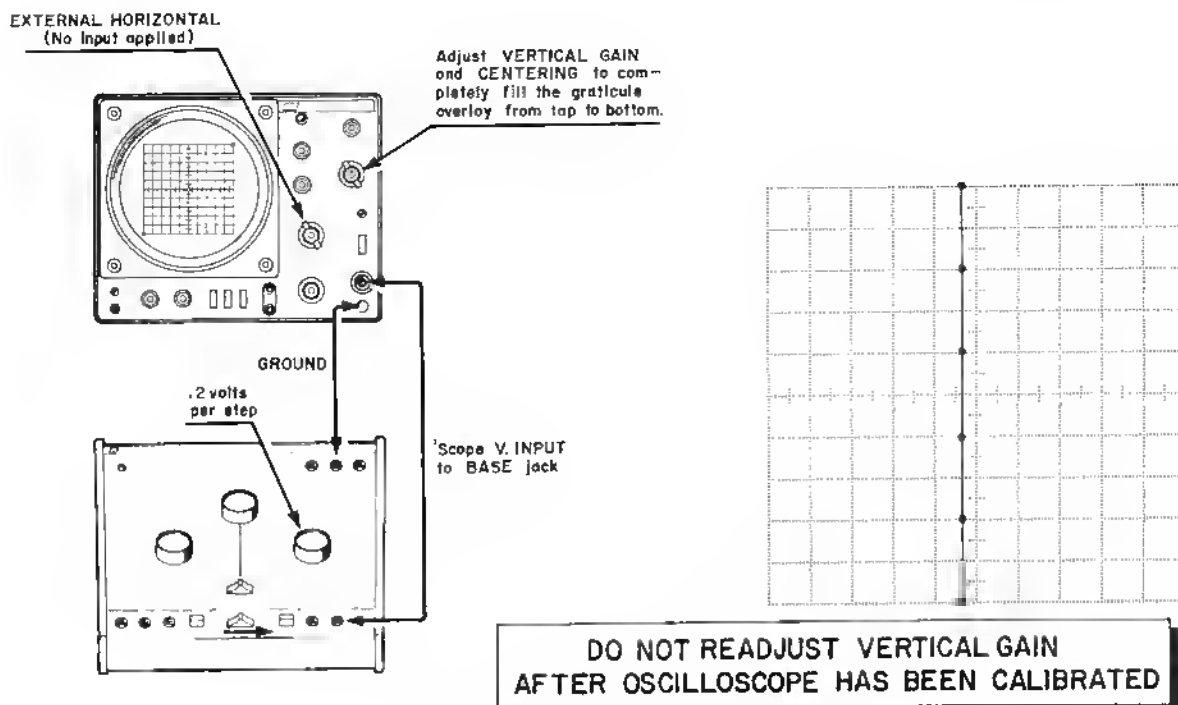

Figure 5. Oscilloscope Vertical Calibration
A step-by-step procedure follows (refer to Figure 5)
8. The display should resemble that shown in Figure 5, a series of six vertical dots, and possibly a light vertical trace between dots. Adjust the vertical gain of the oscilloscope so the display exactly fills the graticule from top to bottom (10 divisions). Adjust the vertical centering as required.